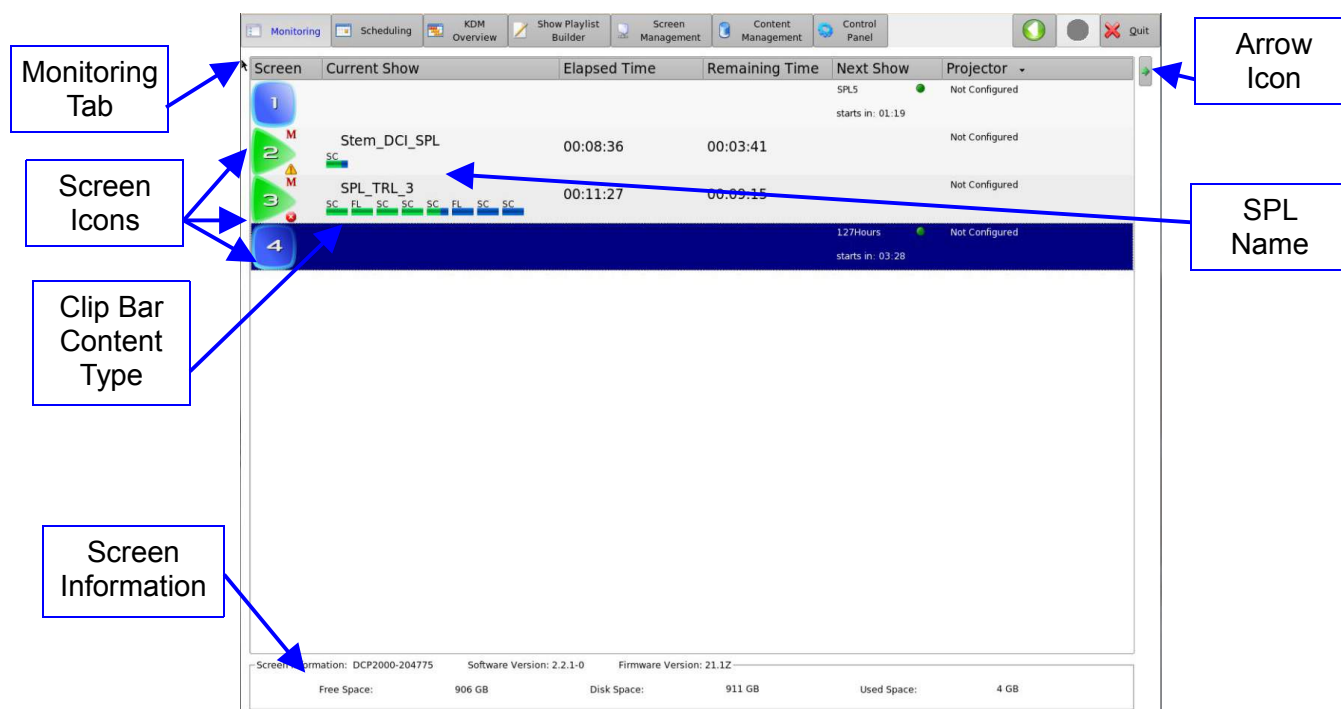

Figure 36: TMS GUI - Monitoring Tab
- The Monitoring window is composed of two different parts (Figure 36):
The bottom part will display information specific to the server on a particular screen (Figure 36). By selecting a screen on the top, the following information will be displayed: